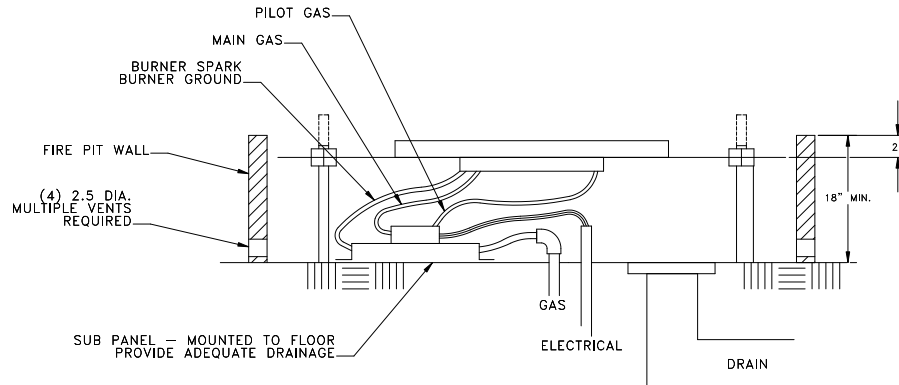

Figure 9: Natural Gas-Residential Installation
10. Install the Subpanel at the bottom of Fire pit as shown in Figures: 9,10,11,12. It is important to have good drainage as warranty is void if Subpanel becomes submerged with water. The burner assembly must be centered and supported by the support plate. Install wire nuts on wires from the control panel to the Subpanel. Be careful to hook up the "positive" to the "positive" and the "negative" to the "negative." Wrap wire nuts with electrical tape or some means to prevent moisture from getting in. Install electrical Burner Ground and Burner Spark from Subpanel to burner.